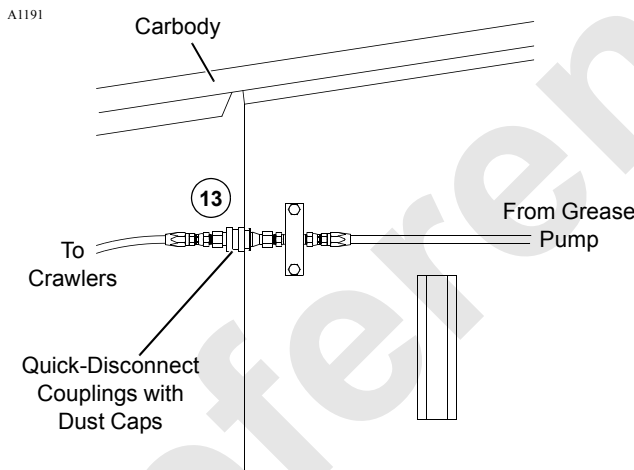

FIGURE 4-10
13. If equipped with automatic crawler lube system, connect grease line from crawler to quick-disconnect coupling on carbody (Figure 4-10).